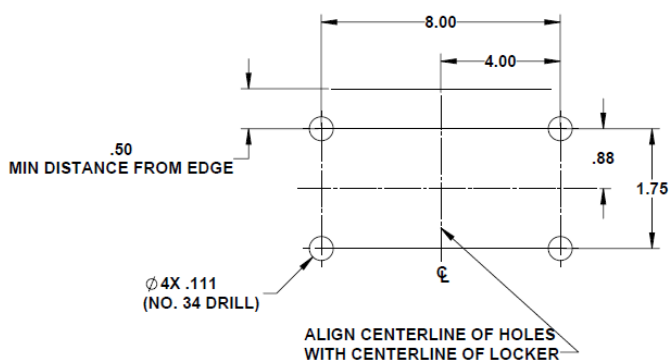

FIG 1
- 2- Determine the power units mounting location and prepare the surface per (fig.1)